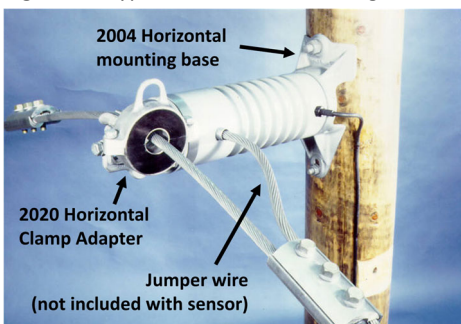
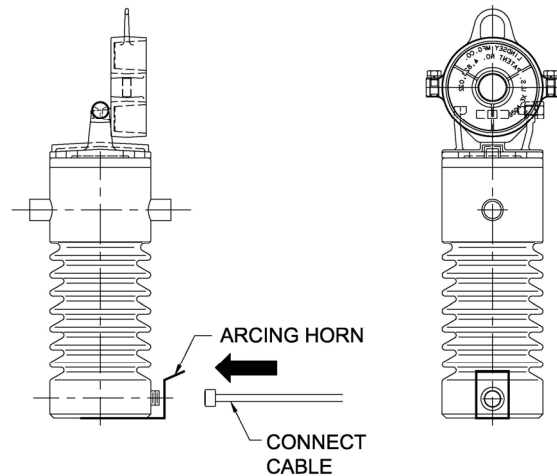

Figure 4: Clamp-top style sensor showing proper orientation of arcing bracket
Figure 5: Arcing bracket (arcing horn) supplied with sensor
Included with the sensor is an arcing bracket (also known as an arcing horn), P/N R-26525 (see Figure 5) which will be installed under the sensor per Figure 4.
5. Place the provided arcing bracket (see Figure 5) underneath the sensor and mount both on the crossarm or other mounting surface. The connector socket on the sensor must be aligned with the hole in the arcing bracket. See Figure 4.